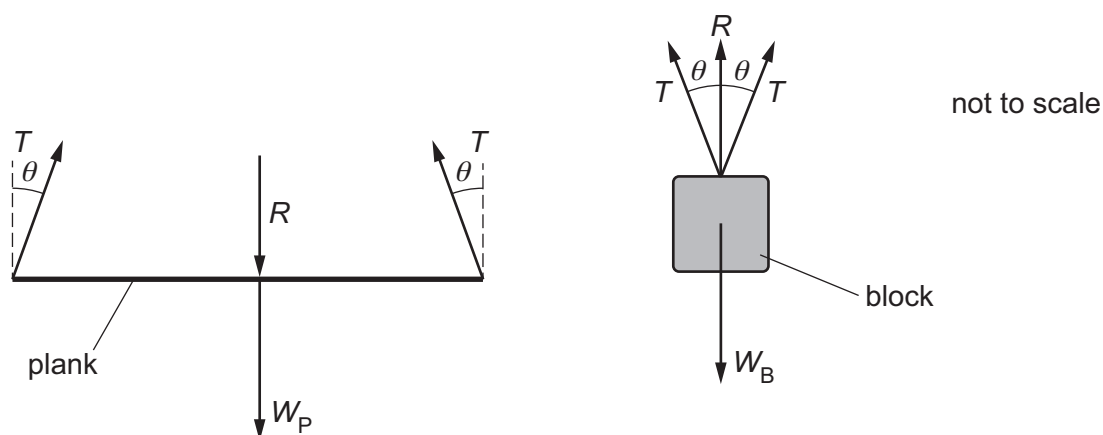

Figure 2.2
Figure 2.2 shows the directions of the forces acting on the plank and the block.
- (i) Use Figure 2.2 to show that